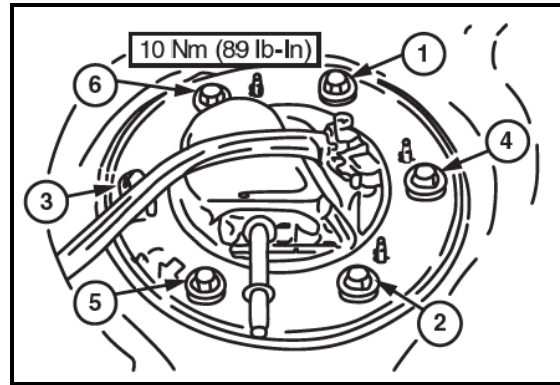

Figure 2
12. Install the tank unit flange on the fuel tank with the fuel out tube in the same direction as when removed. Finger tighten all the bolts then tighten using the sequence shown in Fig. 2.